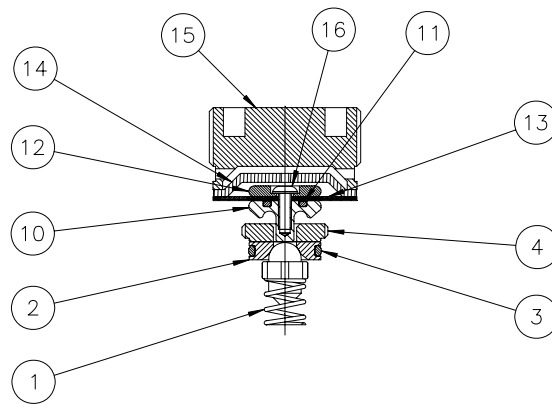

Figure 6b: 1" Dump Assembly
- ▶ At assembly, apply a small amount of dielectric grease to grooves in spray head and valve manifold to reduce high voltage breakdown. Excessive grease will not allow Spray Head [1] to seat fully against Applicator Housing Assembly [2]. (See Figure 6b.)
14. Refer to Figure 6b and replace spray head assembly [1] back onto applicator housing assembly [2]. Screw four socket head cap screws [5] back into place. Do not overtighten nylon screws, as they can break.
See Figures 6b, 7, 12, 15, and 16)
1. Referring to Figure 6b, remove flange [8] from the applicator shroud by loosening three slotted dog style set screws [6].
19. Referring to Figure 6b, replace applicator shroud [3] and flange [8]. Push shroud on as far as possible by hand. Align tab on shroud with notch in applicator body. Use upside down applicator flange to assist in pushing shroud until shroud tab is fully engaged. Replace flange [8] on bottom of applicator and retighten the three slotted dog style set screws [6].
6. Refer to Figure 6b and reinstall shroud [3] and flange [8]. Remount the applicator to the robot manifold. Make sure that all o-rings are in place.